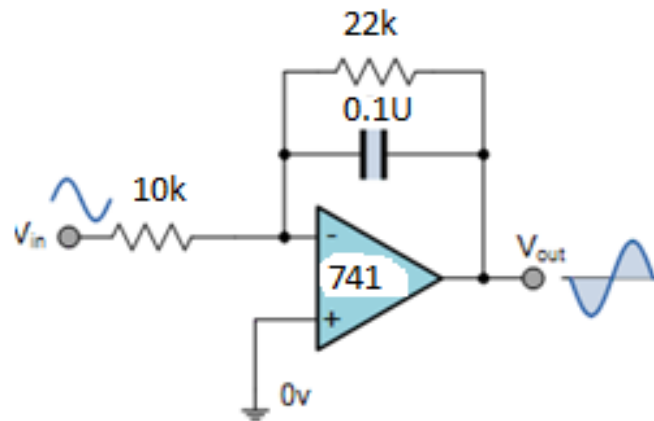

Figure 3
1. Connect the components/equipment as shown in the circuit diagram Figure 3.